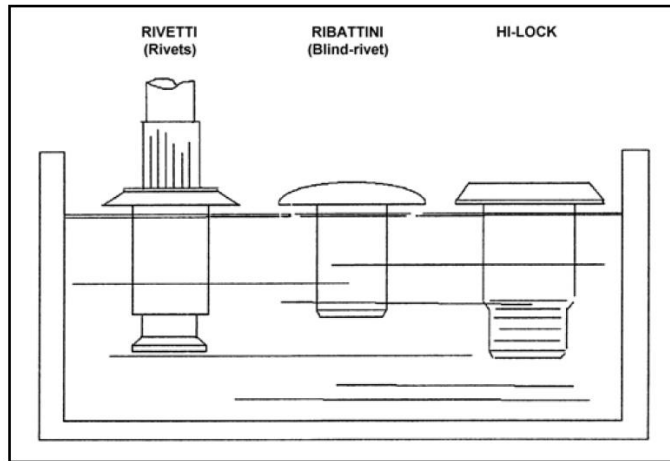

Fig. 11: Wet sealing
- a) For “WET” installation of RIVETS, BLIND RIVETS and HI-LOK, dip fastener into TYPE 1A or TYPE 3 sealant (high temperature areas) before installation (Fig. 11) and install it with sealant still wet.